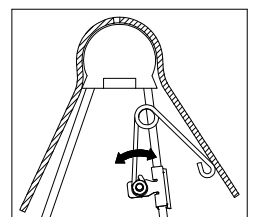

Figure G2: Cutaway view of
2. Adjust the resting angle of your coupler plate by rotating the spring on the driver side pivot arm. Pulling the top of the spring away from the cab will increase the angle of the coupler plate. Set the angle of the coupler so that head will tilt away from the cab when coupling, see figure G2. Tighten the 1/4" nut once the spring's orientation is set.